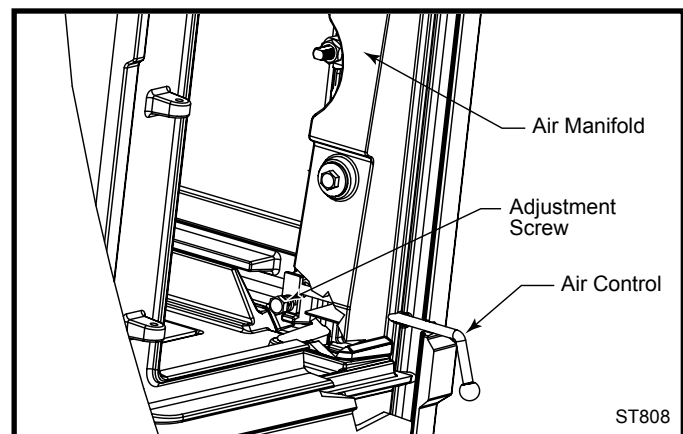

Fig. 34 Primary air control adjustment.
Over time, the air control may tighten or loosen. To adjust the tension on the control, let the stove cool to room temperature. Open the side-loading door and look in toward the inner side of the front panel of the stove. (Fig. 34) Locate the lower hex head bolts (A) on the primary air manifold rods on either side of the door. Adjust with a $\frac{7}{16}$ " wrench.
- Inspect for and remove ash build-up behind the combustion package. This should be done in conjunction with annual cleaning of the chimney connector since this inspection is most conveniently done through the flue collar opening. Inspect the passages to either side of the combustion package (a mirror will be helpful) and vacuum away ash using a flexible vacuum hose inserted into each passage. Care should be taken not to damage the white fibrous material in this rear chamber. (Fig. 34)